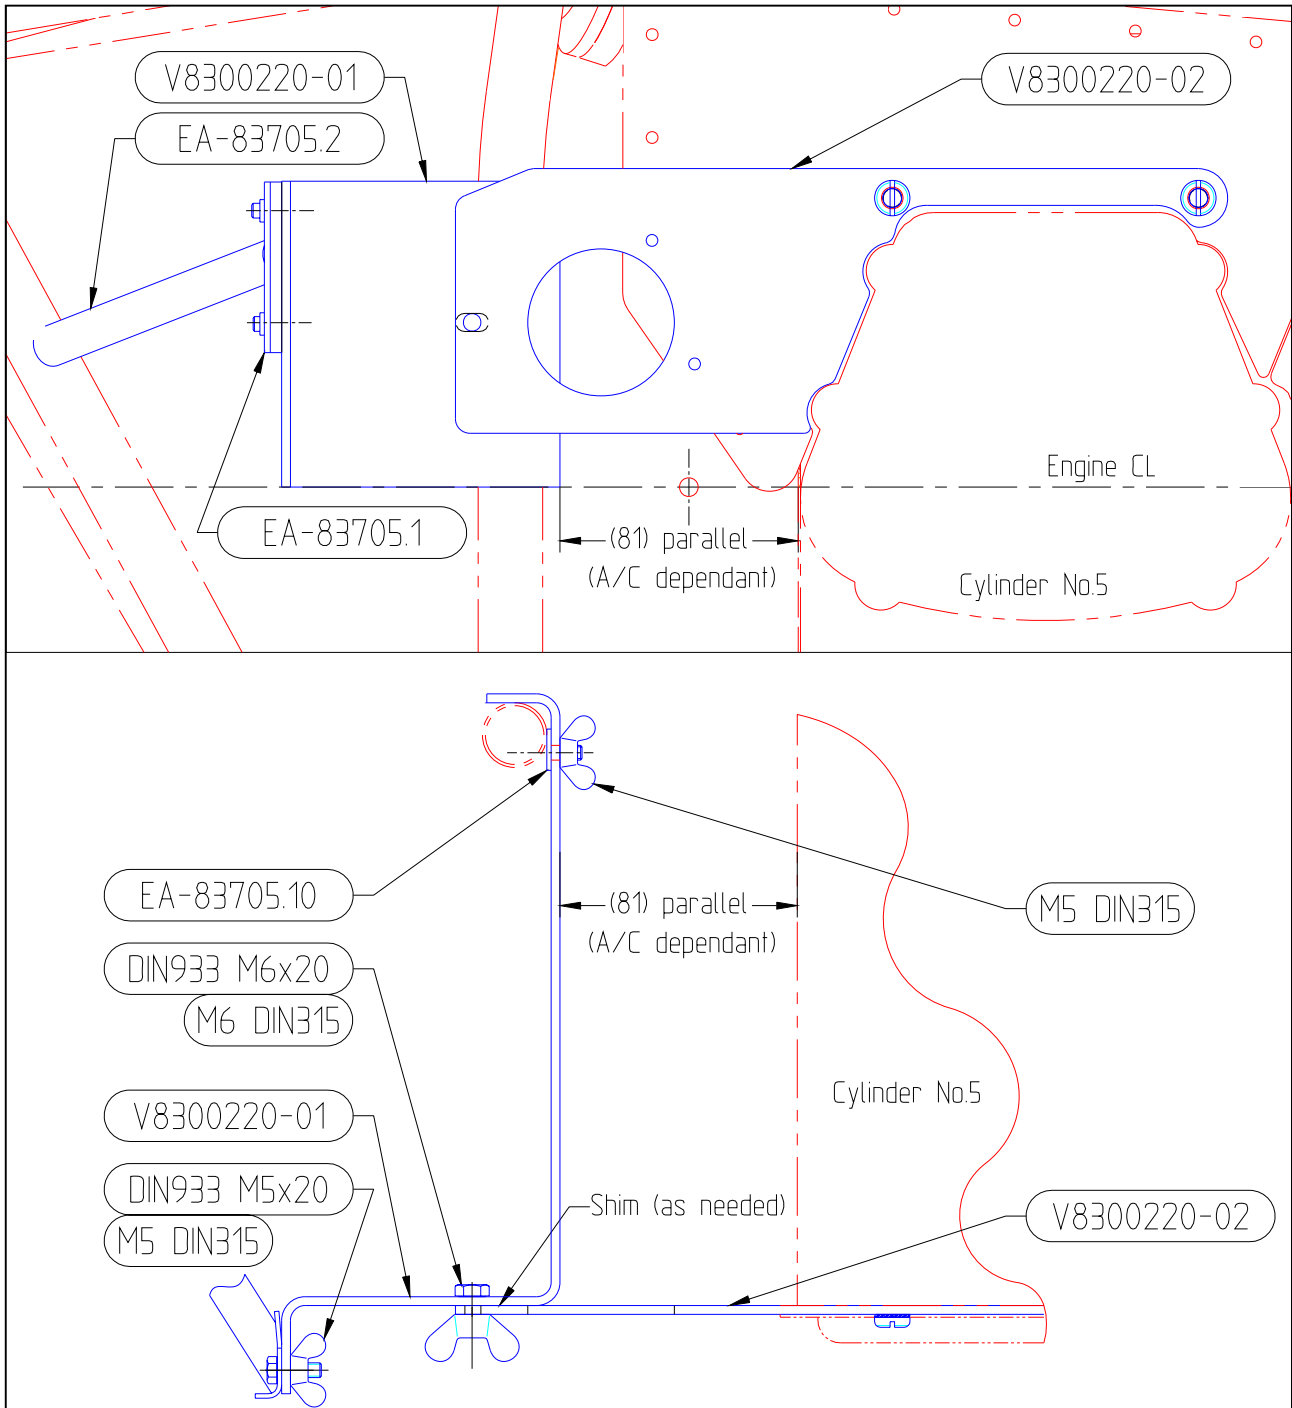
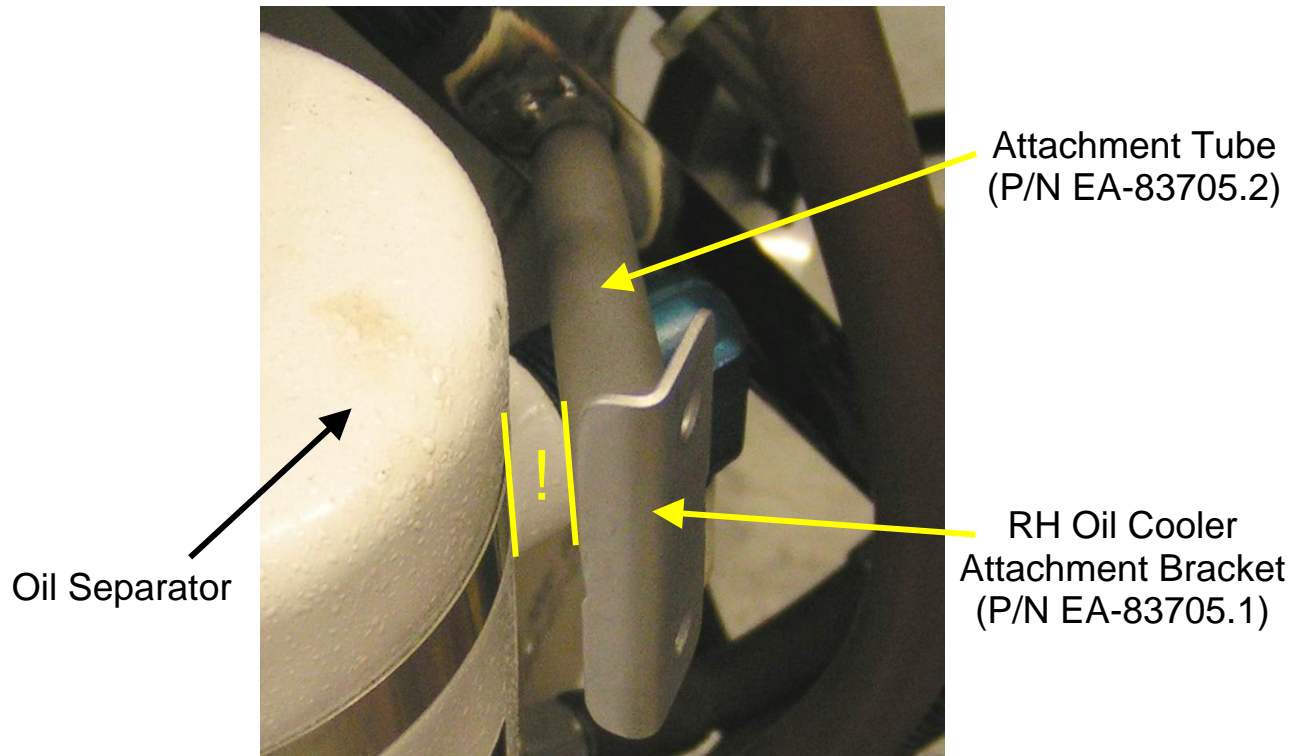

Figure 3: Side and top view of jig installation.
Figure 5: Separation between oil separator and attachment tube.
- Remove paint on engine mount in the areas where the new oil cooler LH oil cooler attachment bracket (P/N EA-83705.10) and tube (P/N EA-83705.2) will be welded to, see Figure 3 & 4.
jigs according to Figure 3. On some aircraft it may be necessary to shim the two jigs for correct alignment.
- Prepare the attachment tube (P/N EA-83705.2) to fit between the RH oil cooler attachment bracket (P/N EA-83705.1) and the engine mount according Figures 3 & 4. Check for enough space between tube and oil separator (temporarily installed for this purpose) and its fittings, see Figure 5. Here, the oil separator is installed rotated 15° CCW when viewed from above relative to its original position to provide enough separation between the middle fitting and the oil cooler. The upper fitting has to point in its original direction i.e. has to be rotated 15° CW when viewed from above.